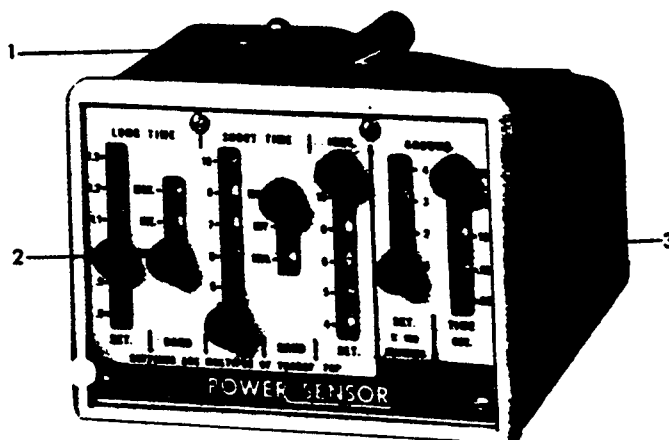

Figure 2. (8039649) Power Sensor Unit
2. The tap selector knobs on the Power Sensor unit should be set to the correct pickup and time delay settings for the application intended. These knobs must be secure. (Figure 2)